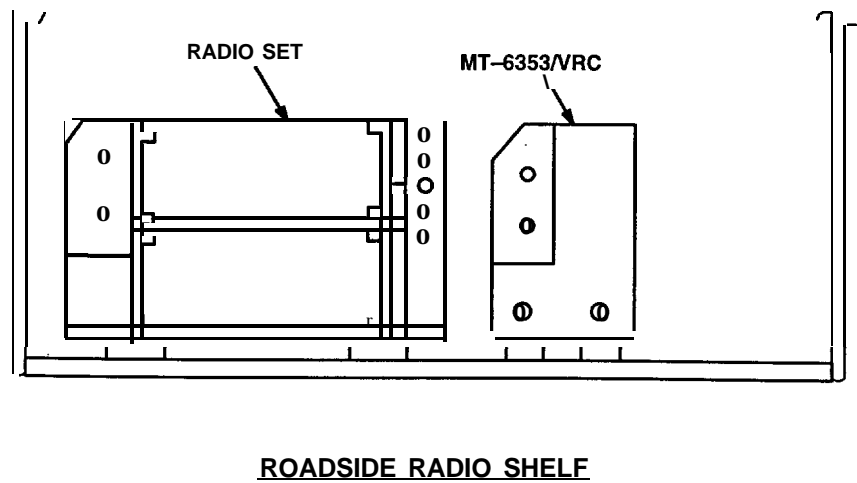

Figure 5-1(2). MK and Radio Installation: Radio Equipment Locations
5.1.1 Installation of Antenna Base. Use the following procedures to install both antennas. See figure 5-1(1) for locations. Remove ground strap from antenna base(s).